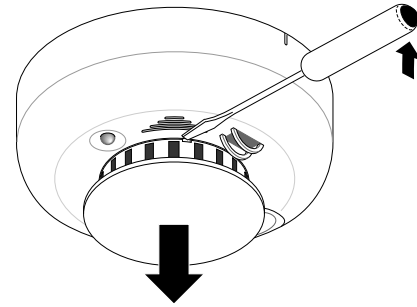

Figure 6 - Removing Alarm Cap
3. Slide a flat-blade screwdriver in the slot on the alarm cap and gently push the handle down to pry the cap up and off. See Figure 6.